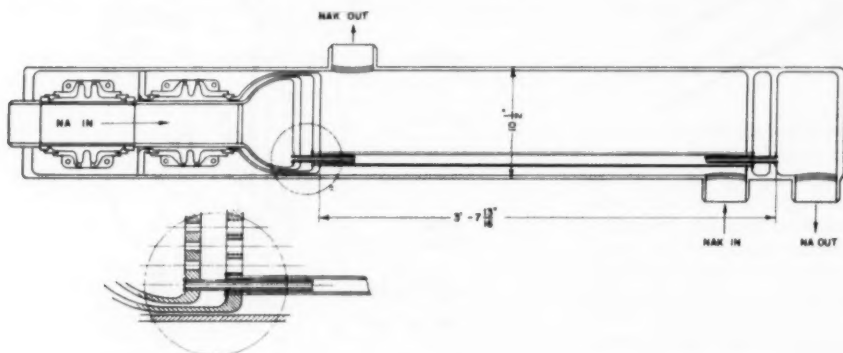
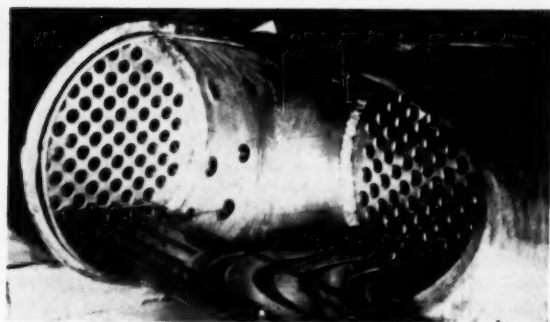

FIG. 3 SODIUM TO SODIUM-POTASSIUM HEAT EXCHANGER—CONCENTRIC TUBES
FIG. 4 SODIUM TO SODIUM-POTASSIUM HEAT EXCHANGER—FLAT TUBES
The "intermediate" liquid-metal heat exchangers are illustrated in Figs. 3 and 4. The main requirements for these units were: (1) "leak-proofness" between the fluids and to the atmosphere, and (2) minimum volume. The first requirement led to the selection of schemes for separating the fluids with two separate walls. The design shown in Fig. 3 is essentially a tube-and-shell heat exchanger modified to include concentric tubes and double tube sheets. Sodium fills the annulus between the tubes to provide a heat-transfer bond. It can be monitored for leakage of either fluid into the annulus. The design shown in Fig. 4 employs flattened tubes bent into hockey-stick shape and swaged round at the tube sheet. The primary and secondary fluids flow in separate sets of tubes, entering the